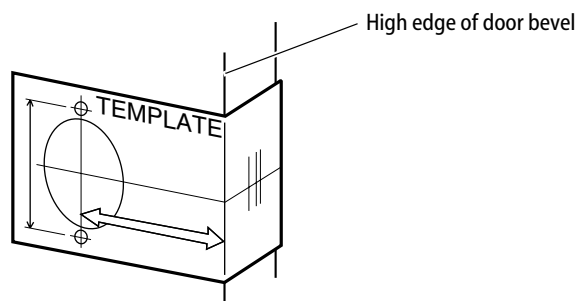

Figure 2 — Positioning the template
- 1 Fold the template and place in position on the high edge of the door bevel (see Figure 2).